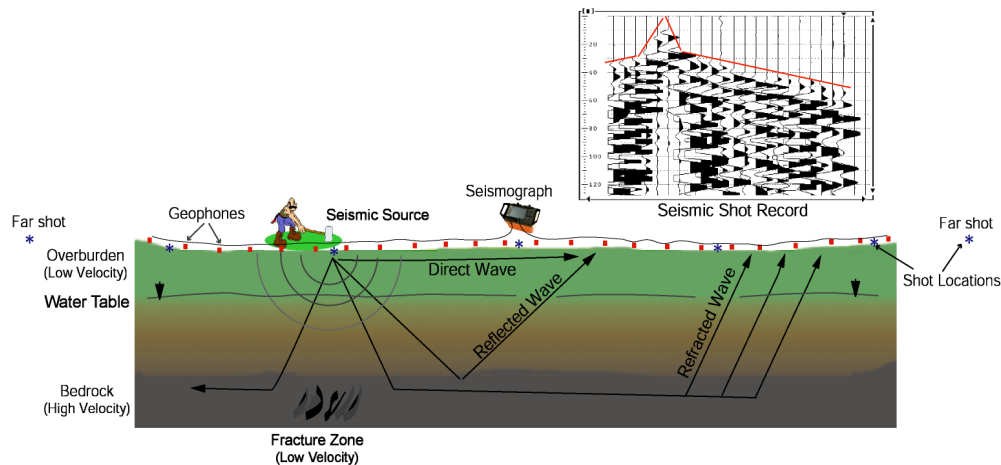

Figure 2: Seismic Refraction Operating Principle
The seismic refraction method relies on measuring the transit time of the wave that takes the shortest time to travel from the shot-point to each geophone. The fastest seismic waves are the compressional (P) or acoustic waves, where displaced particles oscillate in the direction of wave propagation. The energy that follows this first arrival, such as reflected waves, transverse (S) waves and resonance, is not considered under routine seismic refraction interpretation. (Figure 2) illustrates the basic operating principle for refraction surveys.